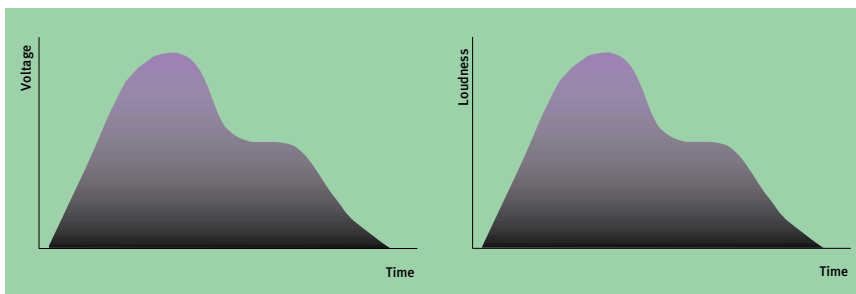

Figure 3: A voltage control becomes a loudness contour.
► you have defined the loudness of the sound at any given time using the CV. The shapes in Figure 3 are called Envelopes, so one of the devices that you can use to control our amplifier is, not surprisingly, called an Envelope Generator. EGs may be basic or complex, but (if they are not themselves modified in some way by another signal) they all share one attribute: each time they are initiated (or 'triggered') they provide a consistent contour, both in terms of the CVs produced and the times taken for them to change.